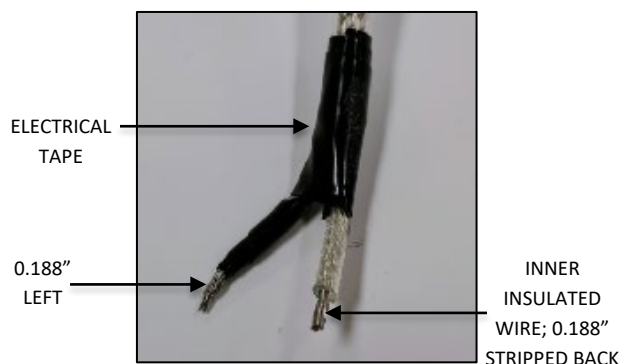
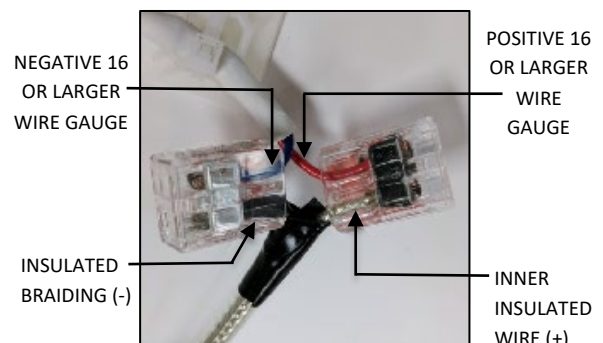

FIG. 19
FIG. 20
- Using electrical tape, insulate the twisted strands leaving 0.188" exposed for connections. Strip off 0.188" of the inner insulation as you normally would for 18AWG stranded core wire as shown in FIG. 19 below. Connect the inner insulated wire (+) to the positive 16 gauge or larger wire ran in step 5 at the hanging bracket and Connect the outer braiding (-) to the negative 16 gauge or larger wire ran in step 5 at the hanging bracket FIG. 20 below.